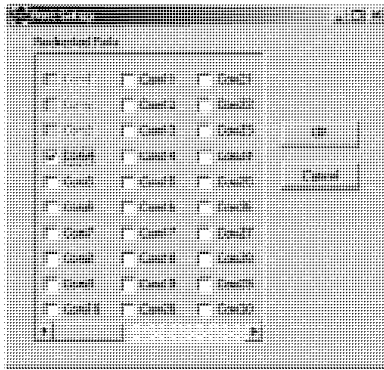

Figure 27: Port Setup Window
6. Click the **Com Setup** button. A Port Setup dialog box appears (Figure 27), with the first logical communications port checked.
- The physical communication ports on the computer where the Com Port Redirector is installed are grayed-out and unavailable. In Figure 27, these are Com1 through Com3. Your unavailable communication ports may vary